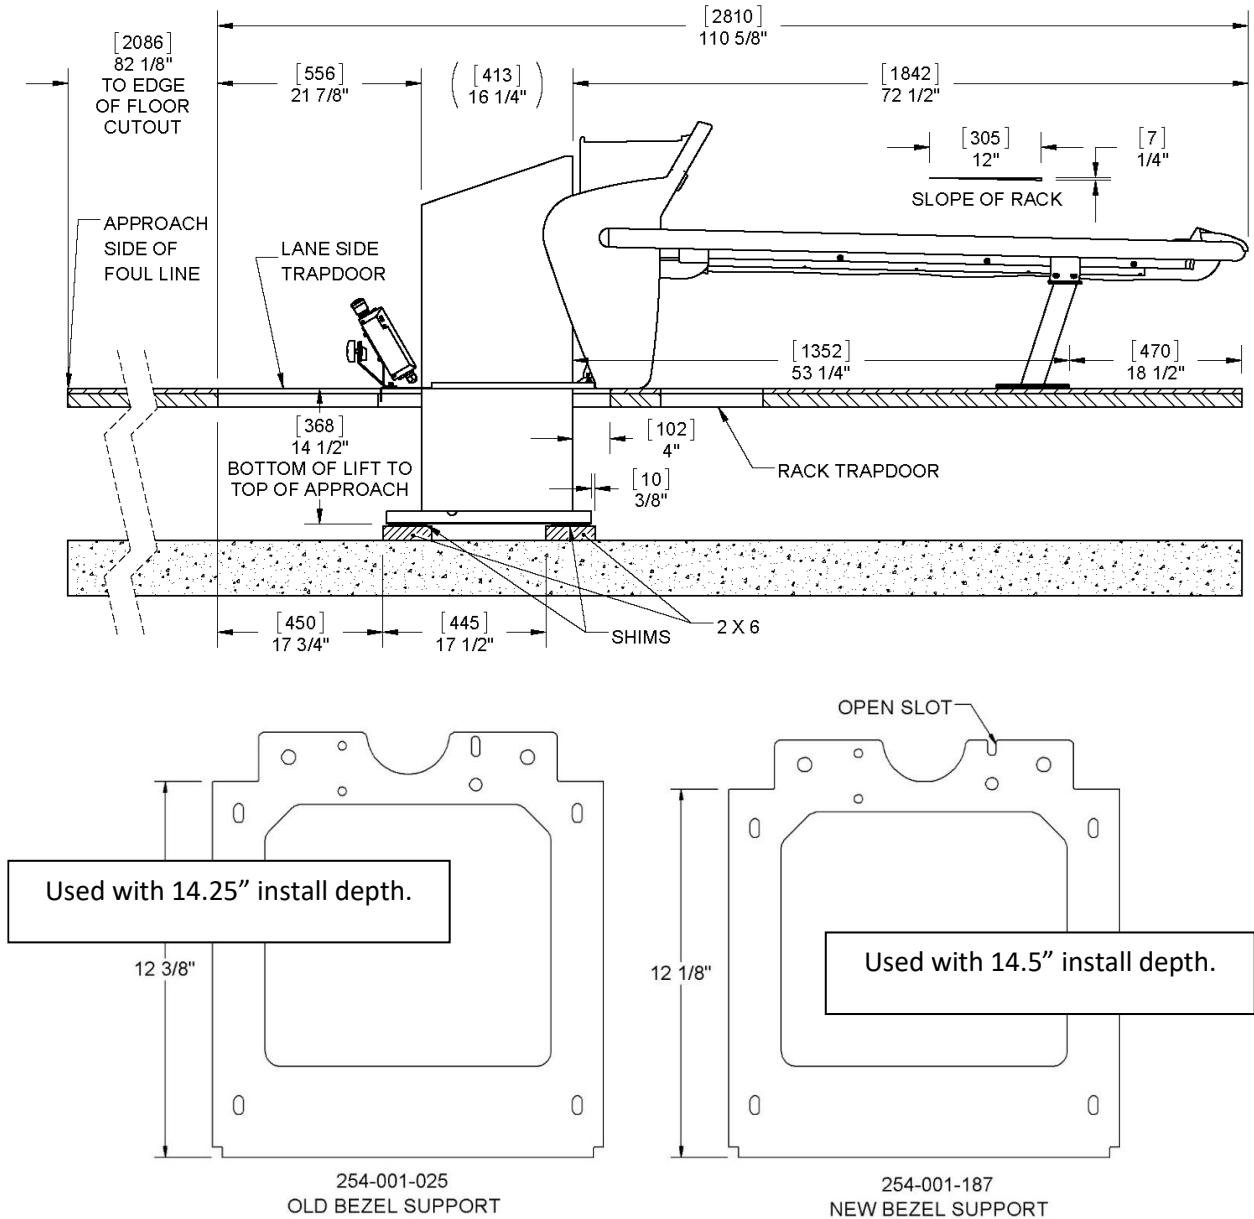
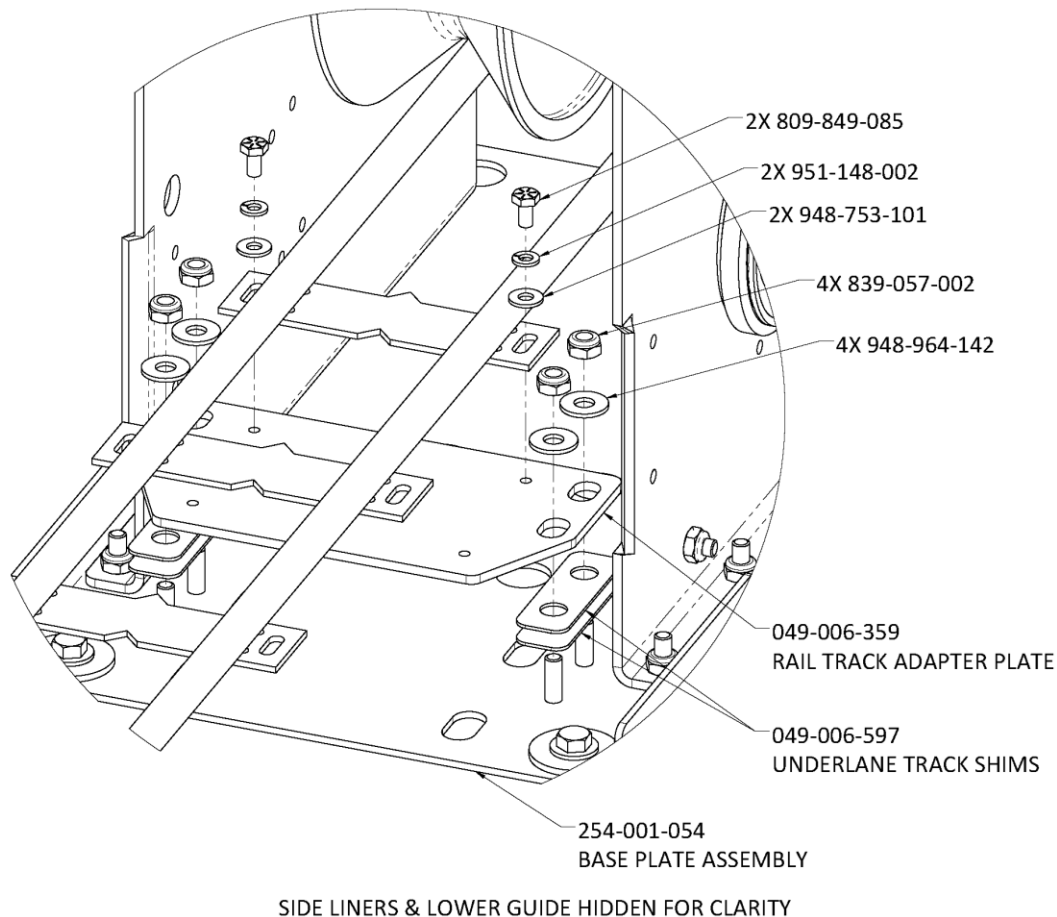

Figure 2 - Standard Layout & Rack Bezel Support
Figure 4 - Track to Lift Connection
See Figure 2 as a typical installation of a Harmony ball return on a 16' [4877mm] approach with the rack flush with the end of the approach. Note the differences in the possible bezel supports used. Bezel supports with an open slot at the top should be used with a ball lift installation depth of 14.5". If the bezel support does not have an open slot at the top, the lift should be installed at a depth of 14.25"
1. Position two (2) 2x6x18" boards on the subfloor as shown in Figure 2. Secure to the subfloor using a powder-actuated nail gun for concrete, or nails for wood.
2. Place shims at four (4) lift-base mounting locations to achieve an install depth of 14.5" [368mm]. Secure using nails.
3. This step will require two (2) people. Lower the lift through the opening in the approach. Slide and tilt the lift away from the ball track. Lift up the end of the ball track and then slide the lift into position.
5. Lift the end of the ball track and place the adapter plate on the base plate over the four (4) studs. Attach the ball track to the adapter plate using the supplied hardware as shown in Figure 4.
7. Center the ball track to the ball lift and then secure with the supplied lag screws, torquing to 30 ft-lbs. Test the alignment and height by rolling a ball on the track and into the lift. Shim the track adapter plate and adjust the position to attain a smooth transition of the ball into the lift. Use the specific shims provided as shown in Figure 4.